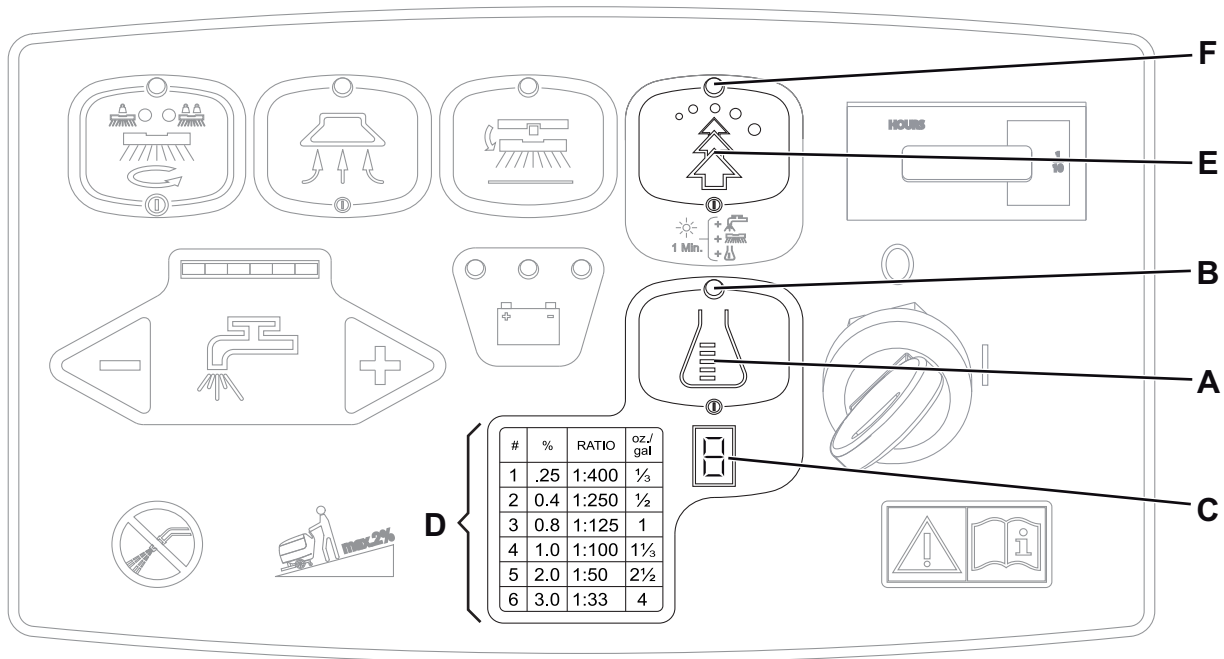

Figure 4
The system used to mix the detergent with the washing water can be activated by pressing the detergent flow control switch (A, Fig. 4): when the led indicator (B) is ON, the detergent is added to the washing water.
Press the EcoFlex™ switch (E, Fig. 4) whenever you temporarily need a greater washing power.